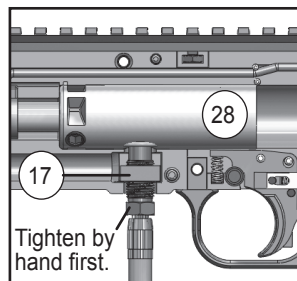

Figure 14: Gas Line Detail
1. Loosen the small nut shown in Figure 14.
2. Lift the Power Tube (28) and Gas Line (34) from the Right Receiver half.
4. To remove the Valve (30) from the Power Tube, carefully tap the large diameter of the Power Tube on the workbench until the Valve slides out from the Power Tube.
6. While the Power Tube is out of the marker, inspect the O-Ring (15) in the Right Receiver half. Inspect for damage and replace if necessary.